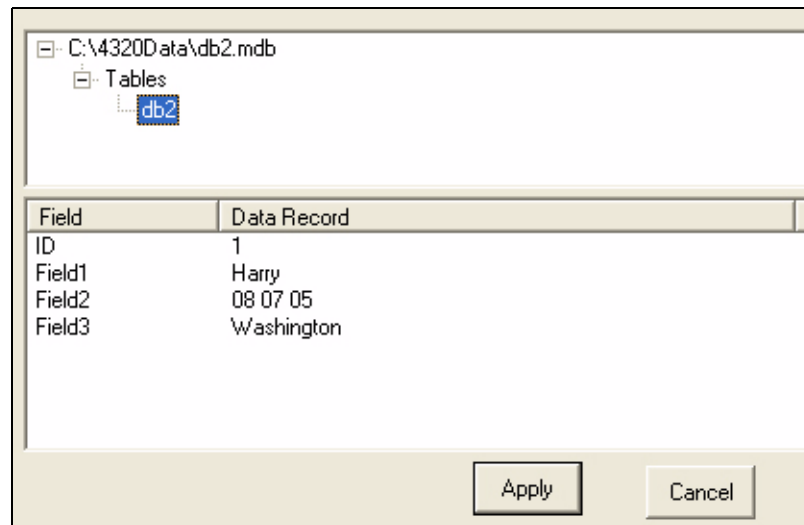

Figure 4-10: Data Records
- 5 Click on (+) in front of the file name to expand the path (see Figure 4-10).
- 7 Select the table of the file. The data contents appear at the bottom of the screen (see Figure 4-10).